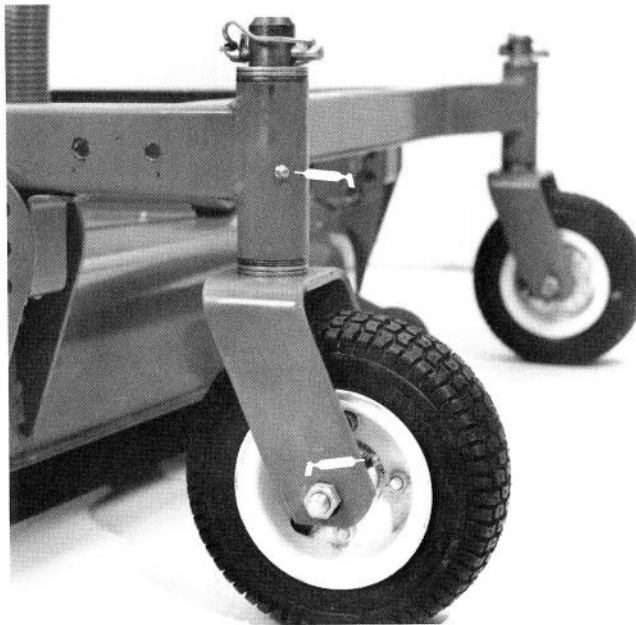
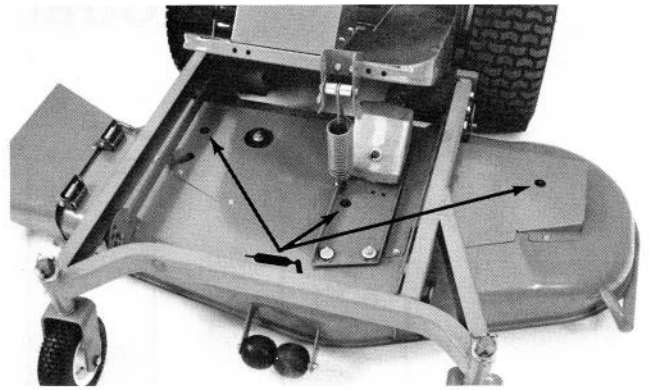

Figure 9
Figure 10
1. The cutting unit has bearings and bushings that must be lubricated, and these lubrication points are: caster spindle bushings (Fig. 9); castor wheel bearings (Fig. 9); blade spindle bearings (Fig. 10) and cutting unit frame pivot bushings (Fig. 12).